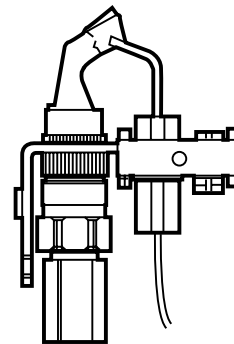

FIGURE 15
At least once a year, check the pilot burner, fig. 15, and the main burner, fig. 16, for proper operation. Refer to the following pilot and main burner sections.
- The pilot flame should envelop sensing device with 5/8" (1.6cm) flame, fig. 15. Remove pilot adjustment cover screw, fig. 16. Turn inner adjustment screw clockwise to decrease, or counterclockwise to increase pilot flame. Be sure to replace cover screw on gas valve after adjustment to prevent possible gas leakage.
The main burner, fig. 15, should display the following characteristics: